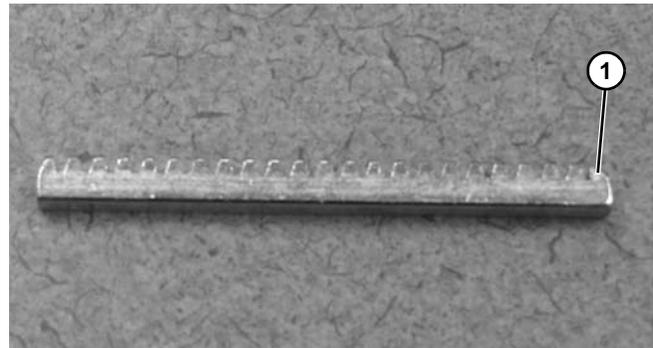

Figure 153
Make sure the bent end (**Figure 153, item 1**) of the gear rack is **NOT** assembled into the conveyor frame.